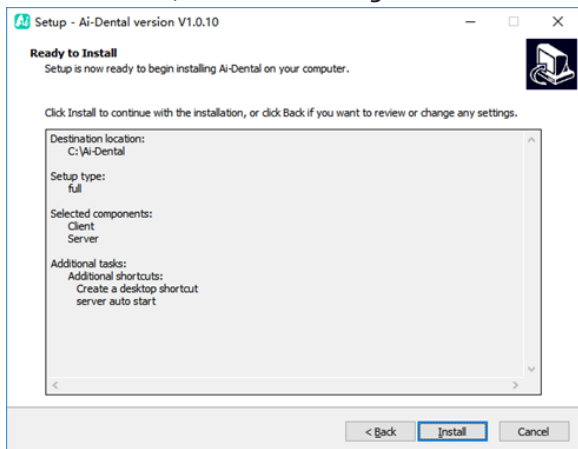

Figure 9
7. Click "Install" button, as shown in Figure 9: